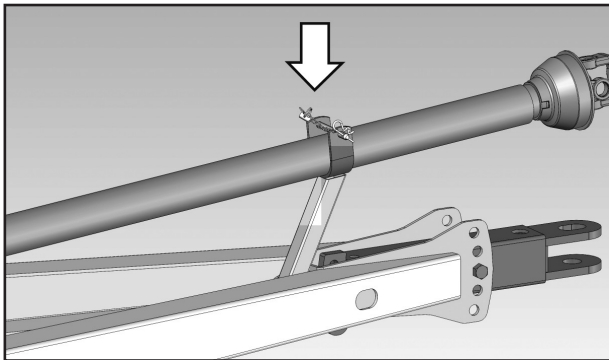

Figure 4 - Driveshaft propped on towbar end
5) If any maintenance, repair or inspection tasks need to be carried out on the machine, uncouple the driveshaft from the tractor PTO and prop it on the towbar end support as shown in the figure 4.